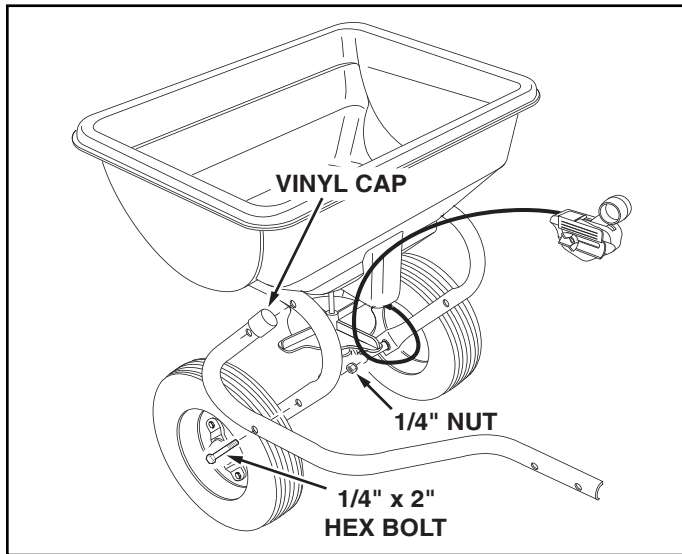

FIGURE 1
1. Assemble vinyl caps onto the ends of the R.H. and L.H. Hitch Tubes. See figure 1.
2. Assemble the R.H. Hitch Tube to the spreader frame tube using two 1/4" x 2" hex bolts and 1/4" nuts. **Do not tighten yet.** Repeat for L.H. Hitch Tube. See figure 1.